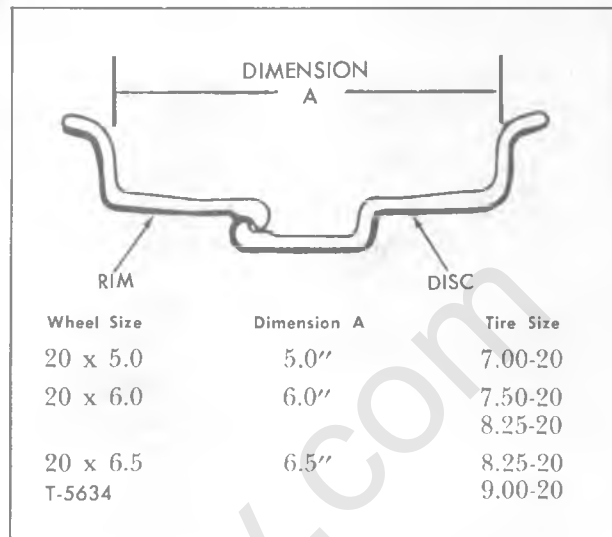

Figure 7—Rim Chart
**IMPORTANT:** When servicing wheels, care should be taken to prevent wheel discs, and rims from becoming mixed. Rims should be tagged or marked to assure assembly to correct disc. The following chart is provided (fig. 7) to aid in assembling the correct rim to disc if they should become mixed.